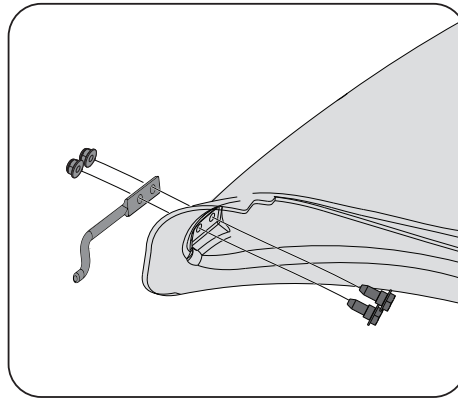

Figure 4-15
- From the inside of the boot, put the two Hex Head screws (738-1225) through the holes at the bottom front of the boot. See Figure 4-15.
- Put the mounting rod (747-06309) in place over the Hex Head screws. Make sure the tip of the rod is facing out from the boot. See Figure 4-15.
- Begin threading the flange lock nuts (712-04064) onto the Hex Head screws. See Figure 4-15.